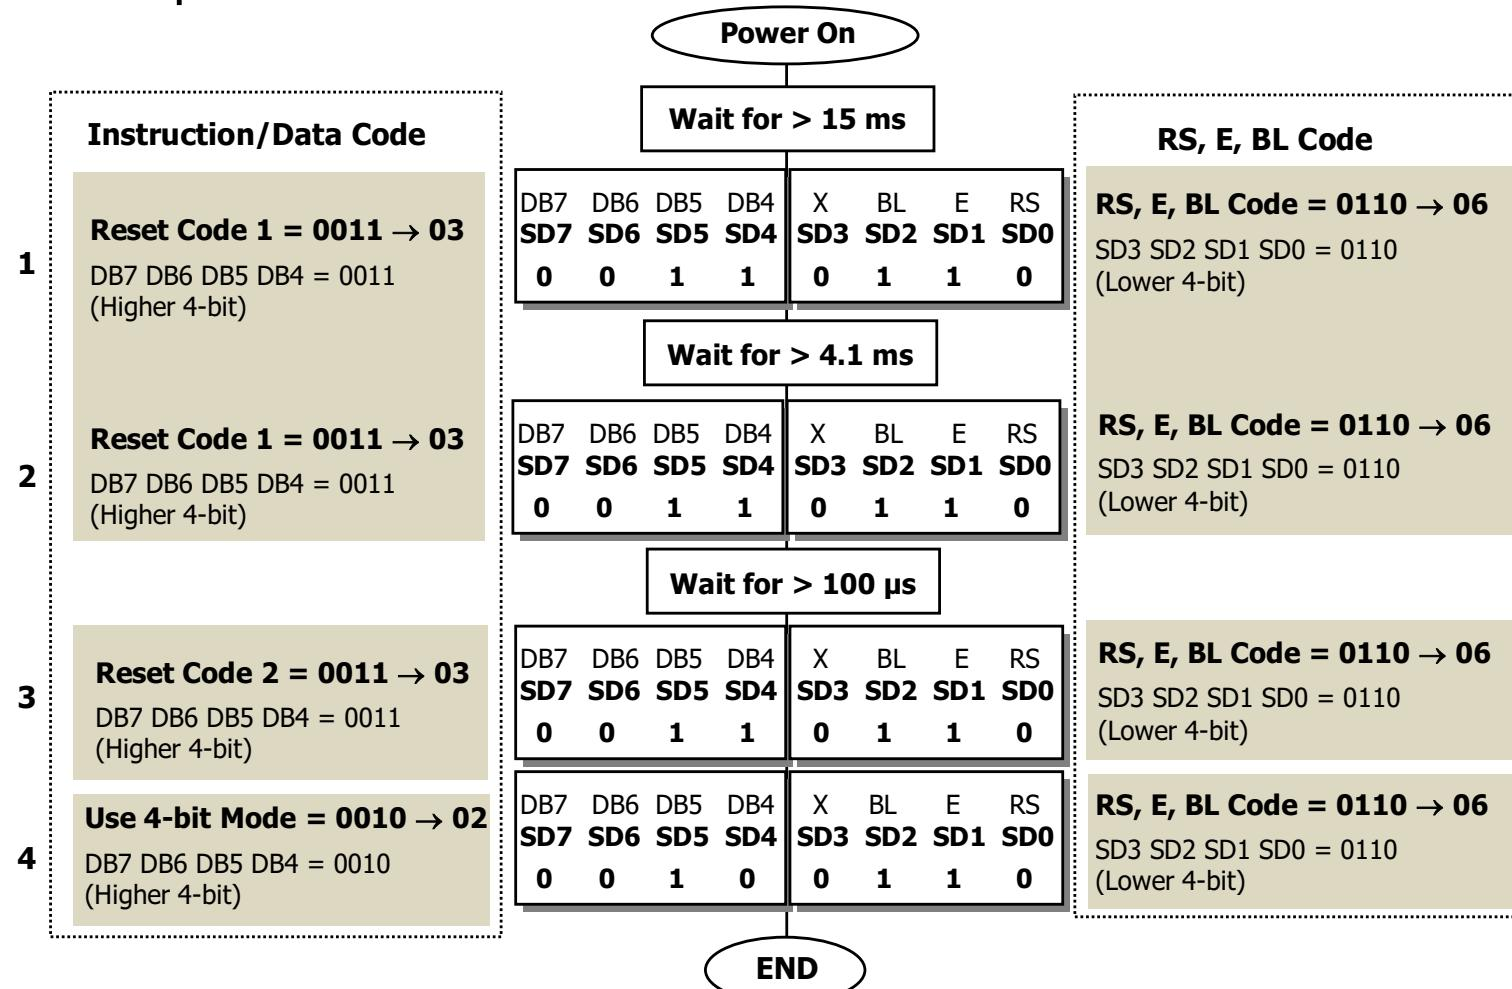

Figure 8.24 The coding process for the LCD initialization operation.
- The operational sequence of the LCD manually initialization process is shown in Figure 8.24.
- Similarly if we combine **Reset Code 2** together to form a single reset code, it is **0x36** (step 3 in Figure 8.24). After these reset, the LCD should be initialized properly and can be configured to perform our desired data display process.
- **Step 4** in Figure 8.24 is to set the data mode for the LCD module (step 4 in Table 8.12). The higher 4-bit is **0010** and the lower 4-bit is **0110**. Combined these two pieces of nibbles together, we can get **0x26**.